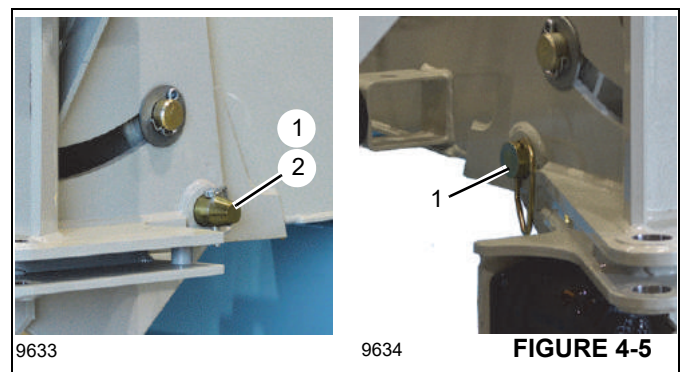

FIGURE 4-5
- Slowly lower the boom until the tip of the jib is on the ground and the pressure on the offset pin (1, Figure 4-5) is relieved.
- Remove the lock pin (2) and offset pin (1).